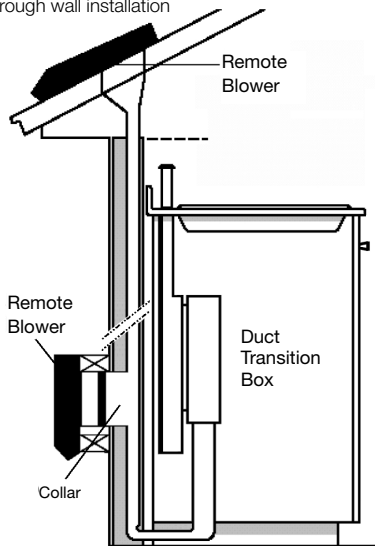

Fig. 3
- F.** Investigate potential ductwork routes and choose the shortest possible route from the unit to an outside wall or to the roof via an inside wall and attic. For guidance, typical ducting installations are shown in figures 3 through 6. Installation in island locations will require under floor ducting. Peninsula locations usually require ducting laterally through cabinets or under cabinet toe spaces. Consider potential interferences to ductwork from building framing (floor joists, wall studs, etc.) and utilities (electrical wiring, water, gas, or sewer lines, etc.).
Figures 3 through 6 are examples of possible ducting